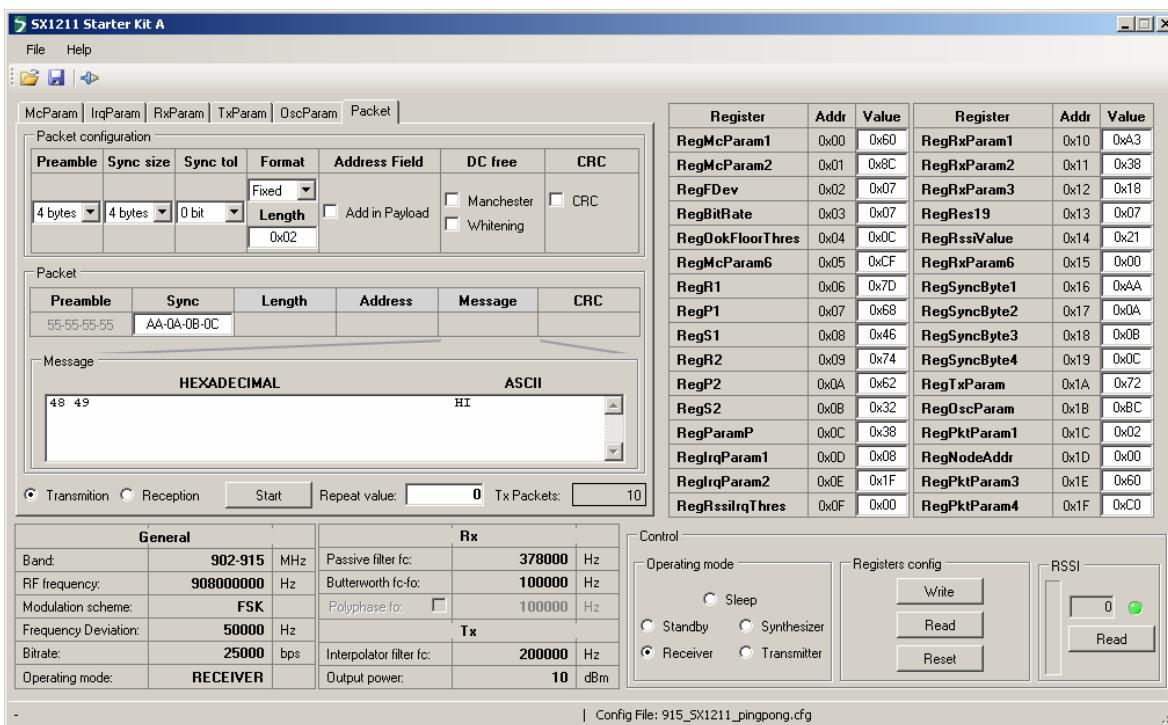

Figure 7. The SX1211SKA User Interface Ready to Transmit the Demonstration Packet
2. The packet test display is preconfigured in transmit mode with a valid payload (see *Figure 7*). The 'Repeat value' may be edited according to the number of packets desired to be transmitted (leave equal to zero for continuous transmission).